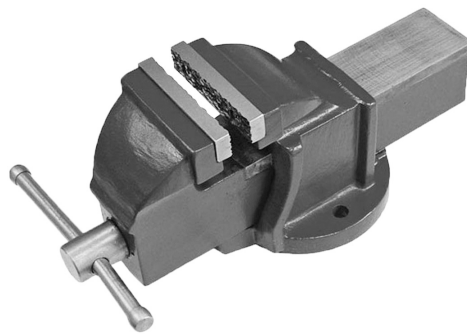

Figure 1
1. Which tool is shown in **Figure 1**?